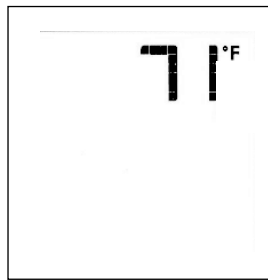

Figure 8.11. Burner shut-down
- Press the ON/OFF Key. The display will show only the room temperature and icon. At the same time, the Receiver will deactivate the call for heat and the burner will shut down. Fig. 8.11. A single “beep” from the Receiver will confirm reception of the command.